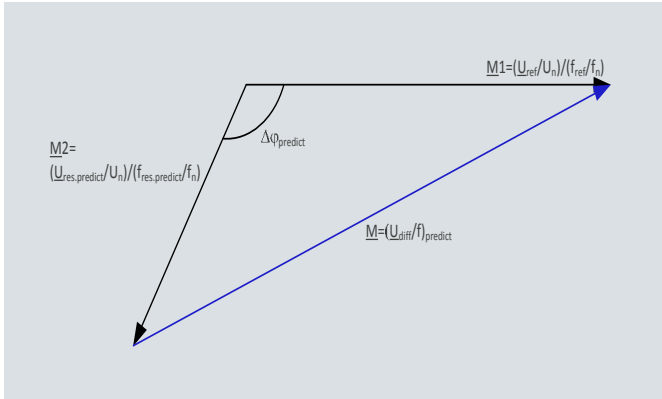

Fig.10 Fast transfer definition in ANSI C50.41-2012
- The resultant volts per hertz between the motor residual volts per hertz phasor and the incoming source volts per hertz phasor at the instant of transfer or reclosing is completed doesn't exceed 1.33 per unit volts per hertz on the motor rated voltage and frequency basis. Refer to fig. 10